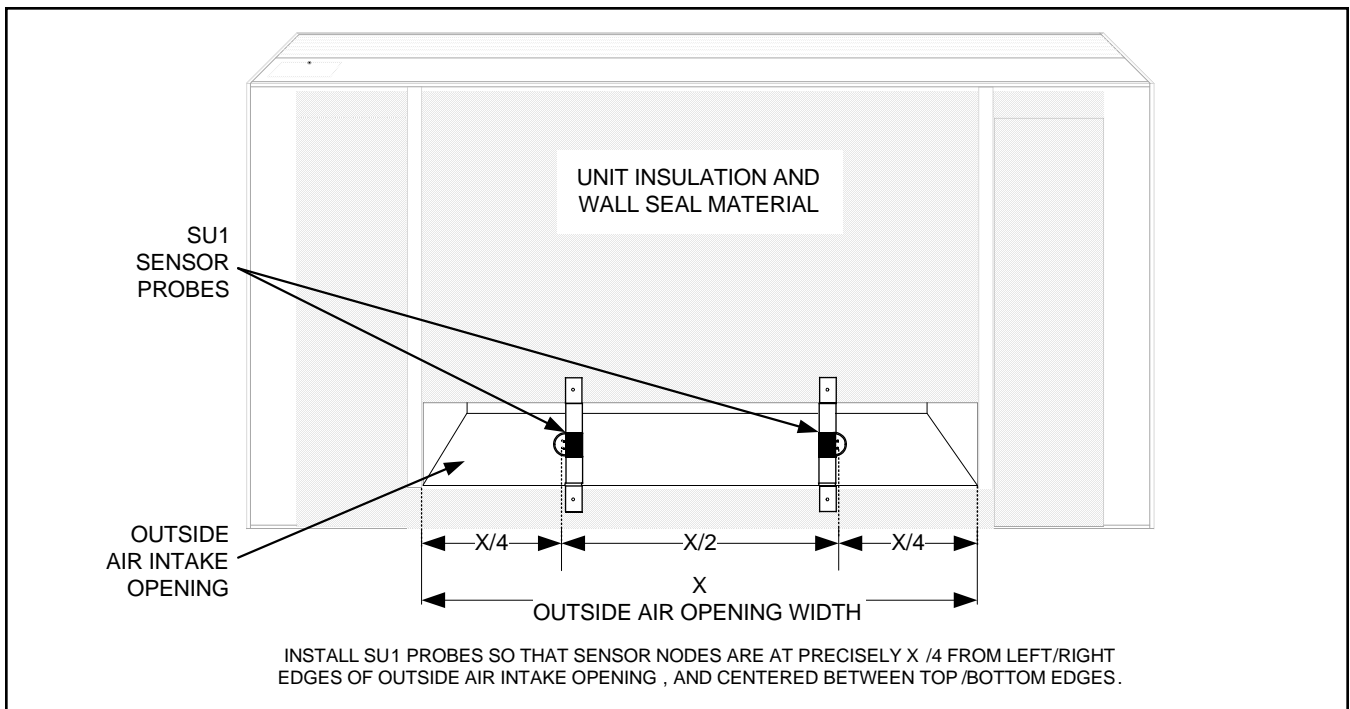

Figure 3. SU1 Sensor Probe Installation and Mounting Detail
1. The sensor probes are factory labeled with the specific location for which it is designed. Determine the intended location for the air flow measurement station(s) as indicated on the engineer's plans. Refer to Figure 3 for probe location and orientation.
3. Using Figure 3, locate and mark the exact installation points on the unit ventilator where the sensor probes will be installed.
The dimensions shown in Figure 3 reference sensor node centers, not the bracket center locations.